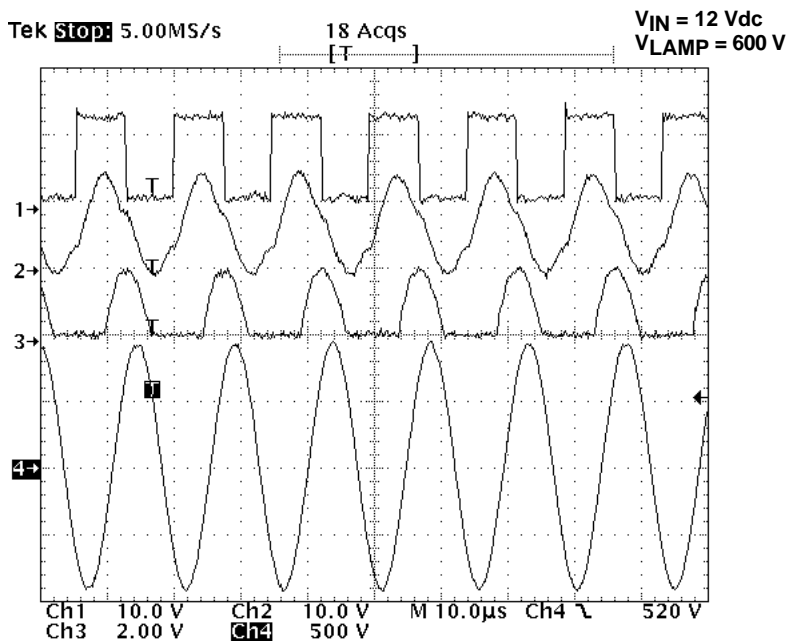
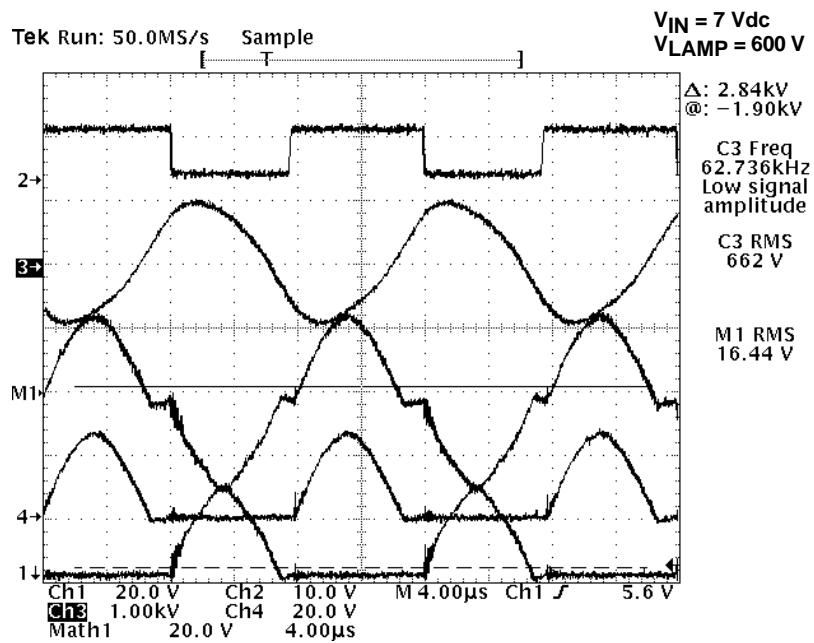

Figure 14. UCC3976 Half-Bridge Waveforms
Figure 15. UCC3977 Push-Pull Waveforms
Waveforms for the UCC3976 half-bridge circuit operated with a 12-Vdc input are shown in Figure 14. P- and N-Channel MOSFETs are driven out of phase with 50% duty cycle producing a square wave at the drains (see Figure15: trace 1). Inductor LRES and the PZT primary capacitance form a low-pass filter. The resulting in a near sinusoid across the PZT primary (trace 2). Due to the high Q of the PZT, lamp voltage (trace 4) is sinusoidal. Lamp current is sensed by the half-wave rectification circuit at RCS (trace 3). Lamp current is in phase with lamp current since the load is primarily resistive with some capacitance due to the reflector's proximity to the lamp. The lamp reflector should be grounded for safety reasons and in order to keep the secondary capacitance constant allowing the PZT load to be constant.
For the push-pull circuit, MOSFETs N1 and N2 are driven out of phase with 50% duty cycle at variable frequency (see Figure 15: trace 2). Inductors L1 and L2 resonate with the PZT primary capacitance, forming a half sinusoids at the drain of N1 (trace 1) and S2 (trace 4). The resulting voltage across the PZT primary is a near sinusoid (trace M1). Due to the high Q of the ceramic transformer, the lamp voltage, which is approximately 600 V in this application, is sinusoidal (trace 3). In order to achieve zero-voltage switching, each drain voltage must return to zero before the next switching cycle. This dictates that the L-C resonant frequency be greater than the switching frequency. The maximum inductance to meet these conditions can be found from equation (16):